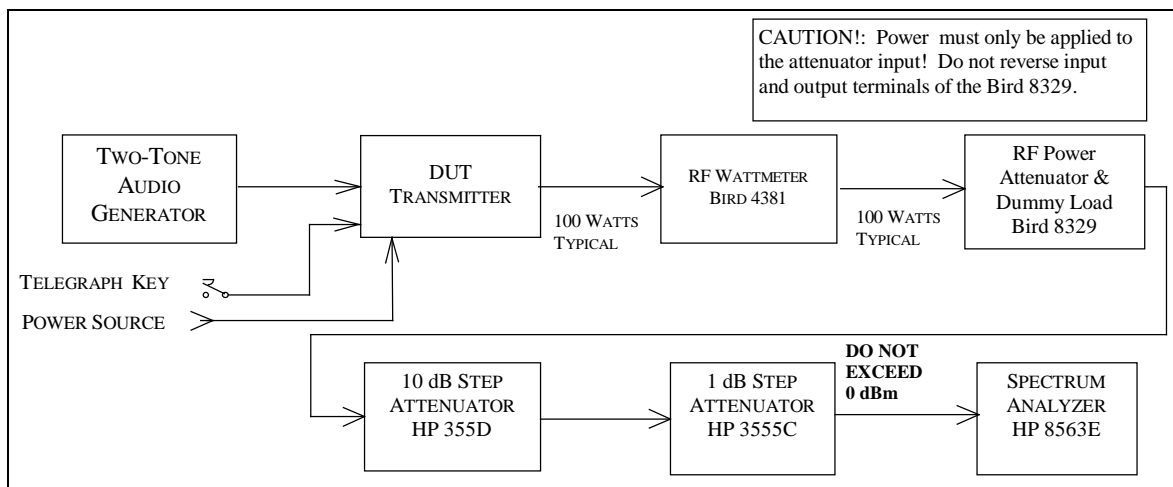

Fig. 4-6 — SSB Carrier and Unwanted Sideband Suppression Test Hook-up
4.6.2 Test hook-up (See Fig. 4-6)